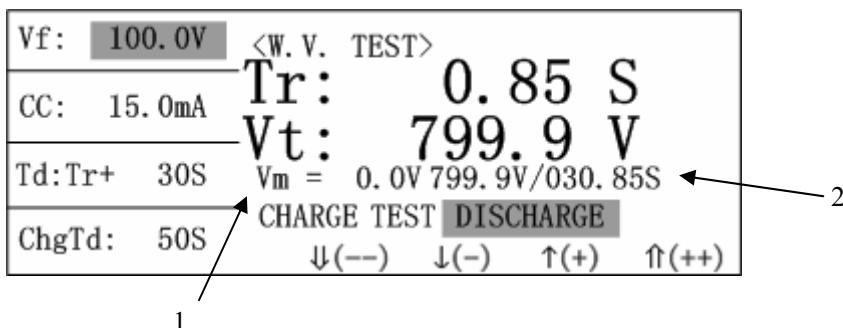

Figure 3-16 W.V. TEST
On <MAIN INDEX>, use direction key to move cursor to“ (5) W.V. TEST”, and press  to enter <W.V. TEST> page (shown as figure 3-16).